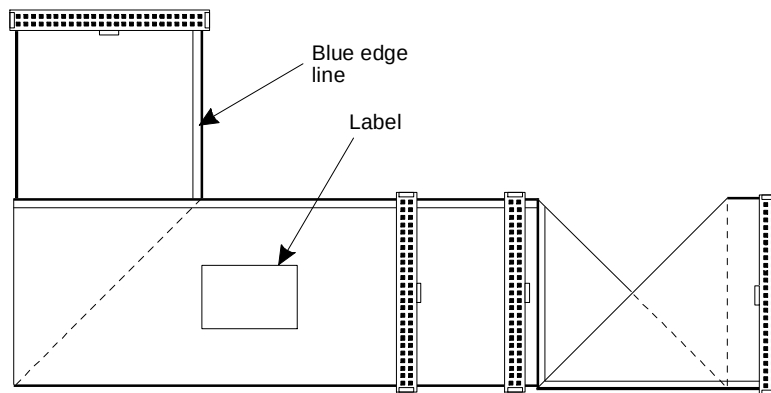
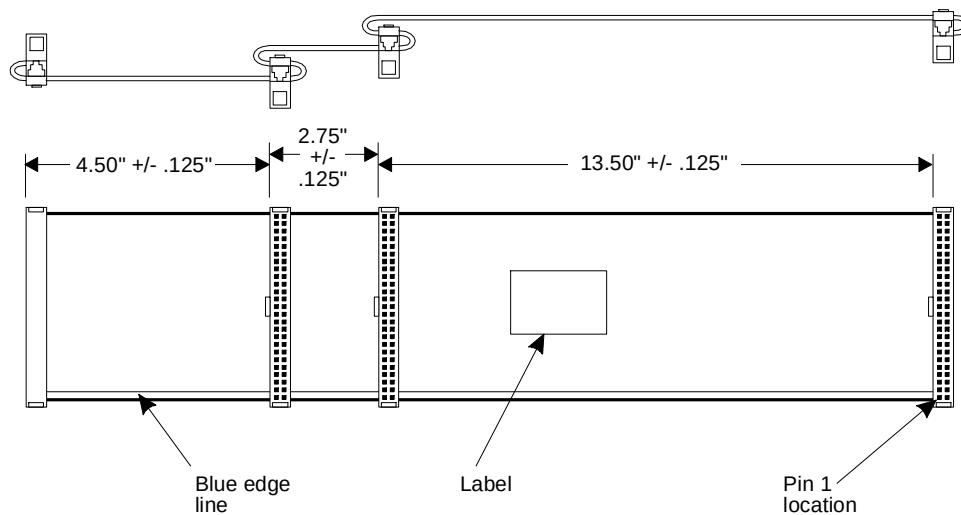

Figure A-19. SCSI Cable for SCSI Peripherals; Folded View
Figure A-20. SCSI Cable for SCSI Peripherals
1. Figure A-19 shows the SCSI cable as it comes from the factory. Attach the SCSI cable by aligning the SCSI connector with the gold fingers on the hard-drive cable receptacle. Push the connector into the cable receptacle. All connectors are "keyed" to prevent incorrect installation (see Figure A-20).